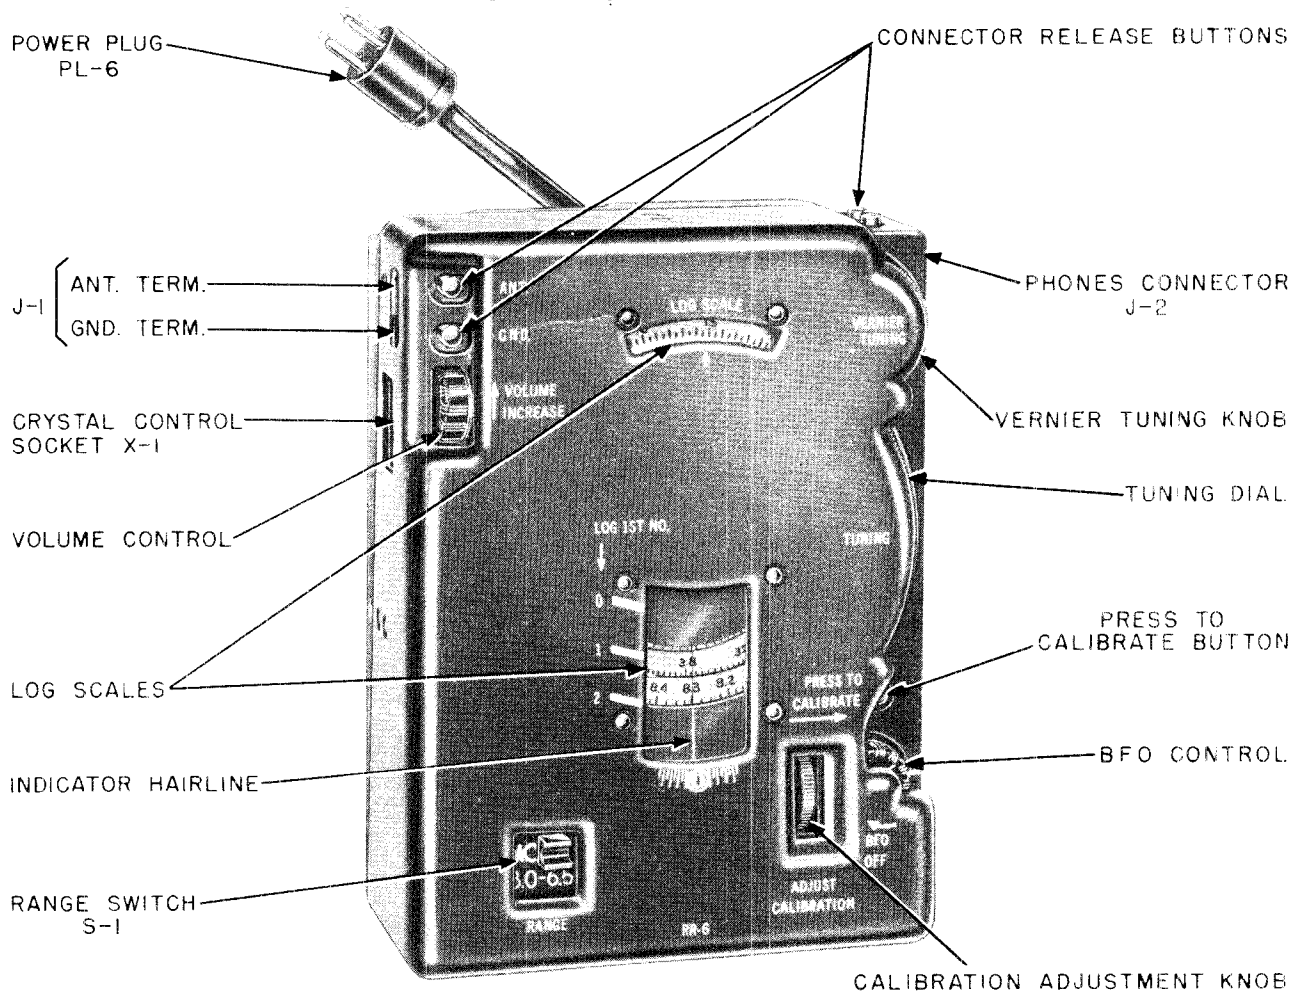

Figure 11. Receiver RR-6 showing control locations.
### 18. CONTROLS AND FUNCTIONS—(See Figure 11)
(5) Turn ADJUST CALIBRATION (Figure 11) until the hairline coincides with the calibration point on the dial scale.
b. Set RANGE switch (Figure 11) for the proper frequency band:
- (1) Blue—Low band: 3—6.5 mc
- (2) Red—High band: 6.5—15 mc
a. Plug the specified crystal in CRYSTAL CONTROL socket (Figure 11).